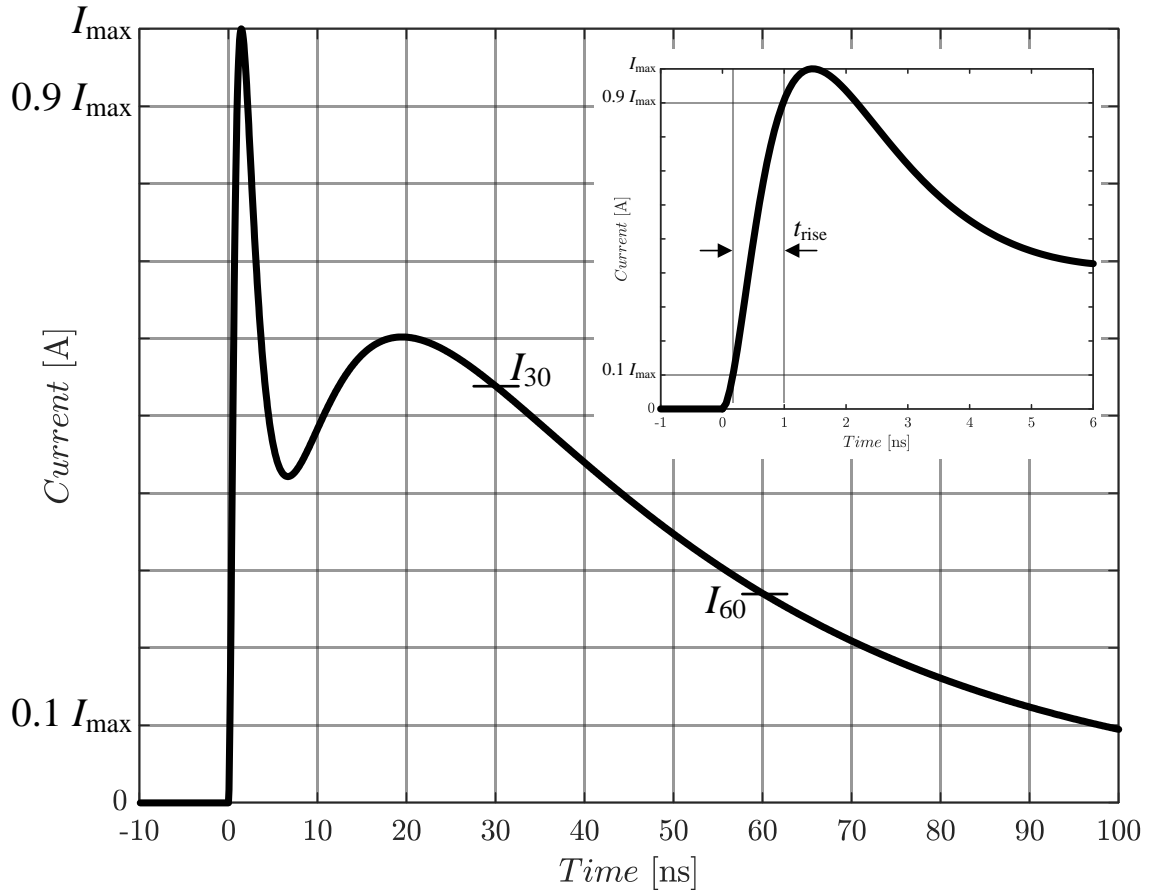

Figure 2. Standard waveform of ESD current for contact discharge. The leading edge is shown in the inset.
- (1) the waveform of the discharge (pulse) current as it is shown in Fig. 2 and
- (2) parameters of the discharge (pulse) current as given in Table II.
- (1) the equivalent capacitance seen from the output terminals approximately $C = 150 \text{ pF}$,
- (2) the equivalent resistance seen from the output terminals approximately $R = 330 \Omega$,
- (3) the open-circuit output voltage at terminals from 1 kV (or lower) to 8 kV for the contact discharge,
- (4) the open-circuit output voltage at terminals from 2 kV (or lower) to 15 kV for the air discharge,
- (5) the tolerance of the open-circuit output voltage $\pm 5 \%$,
- (6) both positive and negative polarity of the output voltages for all levels,
- (7) a single discharge mode,
- (8) once charged, the ESD generator should be able to hold open-circuit output voltage for at least 5 s,
- (9) the discharge (pulse) current deviates standard waveform (Fig. 2) within maximum limits (Table II) when the influence of the ESD generator strap is negligible.